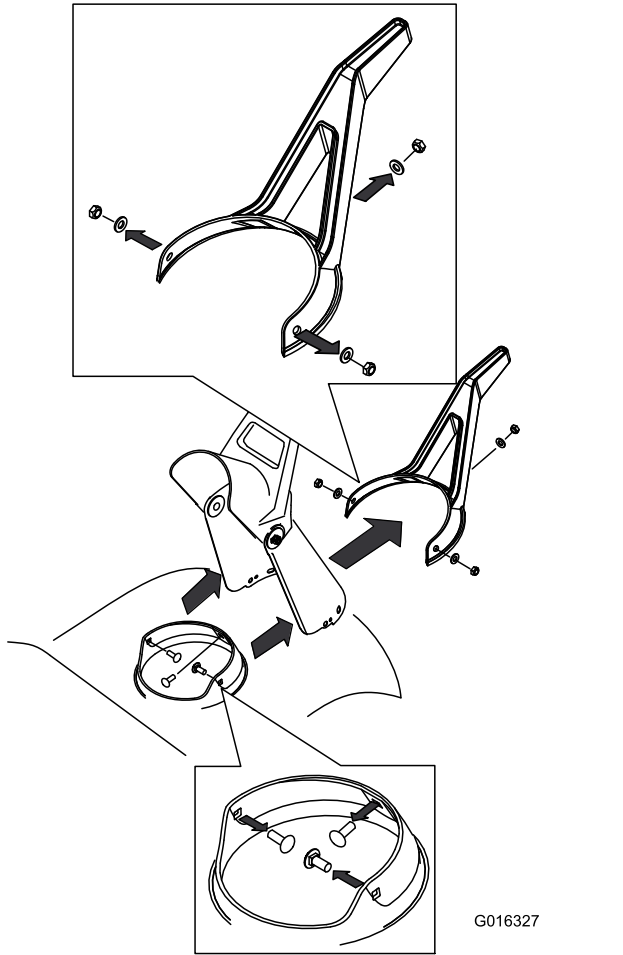

Figure 28
3. Remove the discharge chute by removing the 3 screws holding the chute and the screws holding the chute seal (Figure 28).